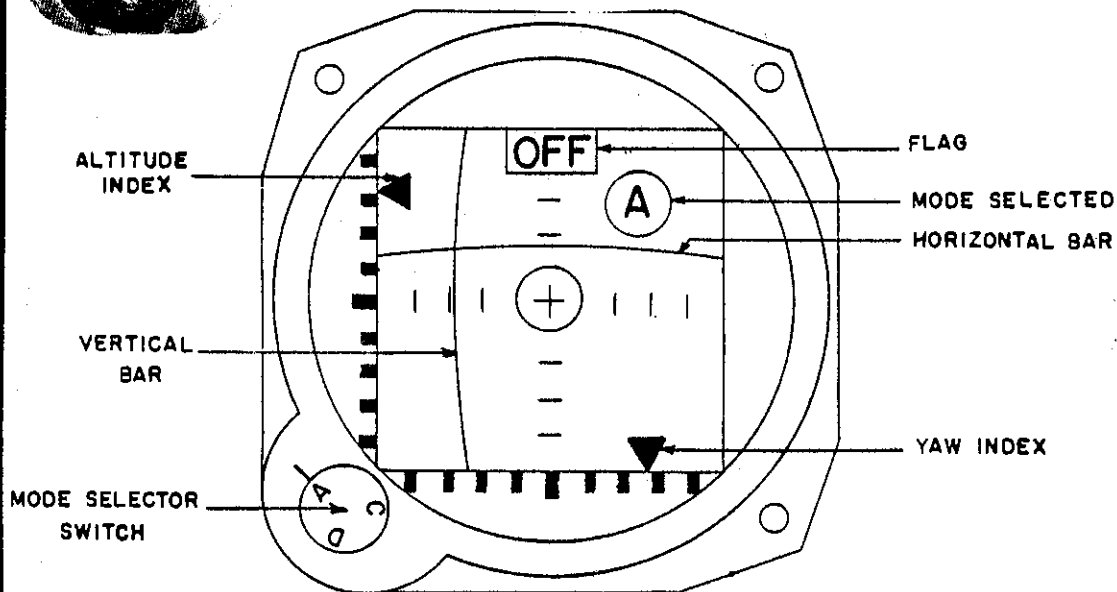

Figure 2-13. H-3 AFCS System Components
d. Supplemental Information. Operation with the AFCS system inoperative is not desirable, particularly for extended flight. To acquaint you with the flight characteristics of the aircraft without the assistance of the AFCS, the instructor will occasionally disengage the system. Smooth, but positive control movements will be necessary to avoid over controlling the aircraft. With practice, you will be able to perform hovering, takeoffs, approaches, and landings with the AFCS disengaged. (See figure 2-13.)